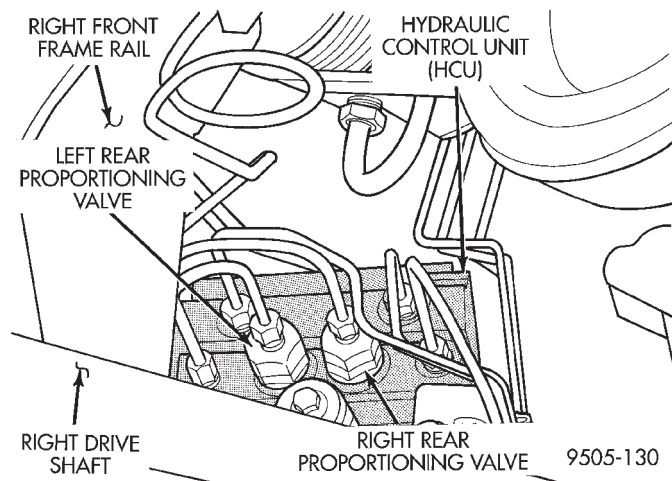

Fig. 24 Rear Wheel Proportioning Valve Location On HCU
- (1) Disconnect brake tube fitting from proportioning valve requiring removal from HCU (Fig. 24).
- (2) Remove proportioning valve requiring replacement (Fig. 24) from the HCU.